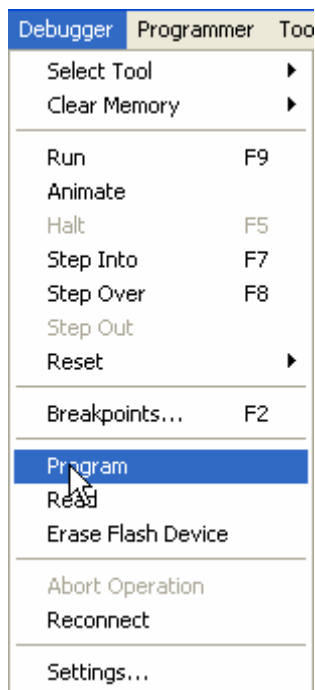

Figure 23: Programming your Microcontroller
Step 3: Select “Debugger” -> “Program” (Figure 23) to program the microcontroller. Analyze your results with awe!